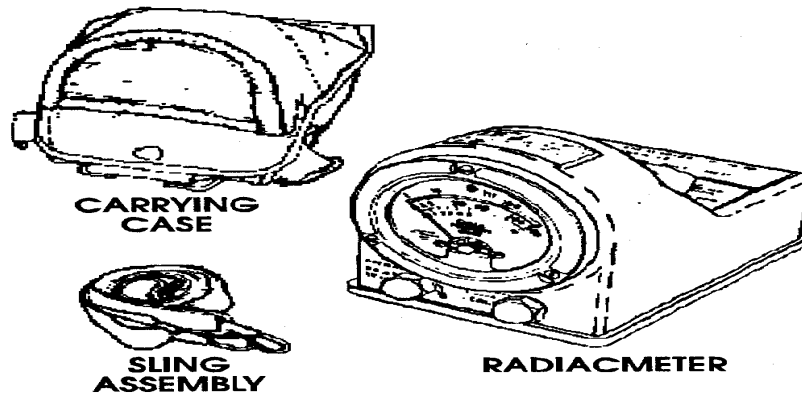

Figure 5-14. 174/PD Radiacmeter
f. The IM174 series (Figure 5-14) is a portable tactical survey instrument designed to measure gamma radiation dose rates from 0 to 500 cgyph. NBC personnel to determine gamma radiation levels from radioactive contaminants while performing survey and monitoring tasks primarily use the IM174 series. Procedures for using the IM174/PD are discussed in FM 3-3. TM 11-6665-213-12 provides further information.